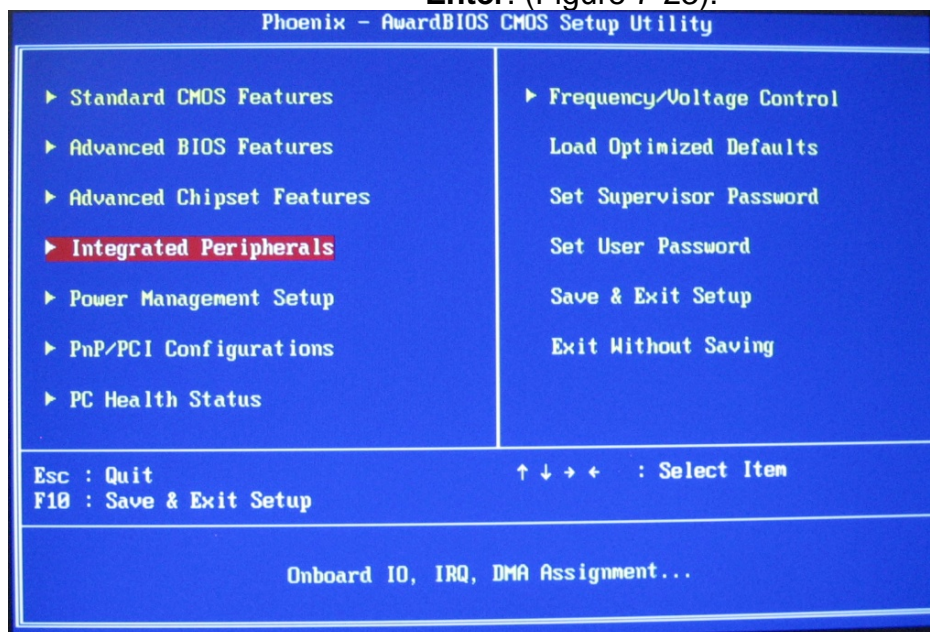

Figure 7-23 Integrated Peripherals
13. Press **Escape** to get back to **Main BIOS Utility** page. Select **Integrated Peripherals**, Press **Enter**. (Figure 7-23).